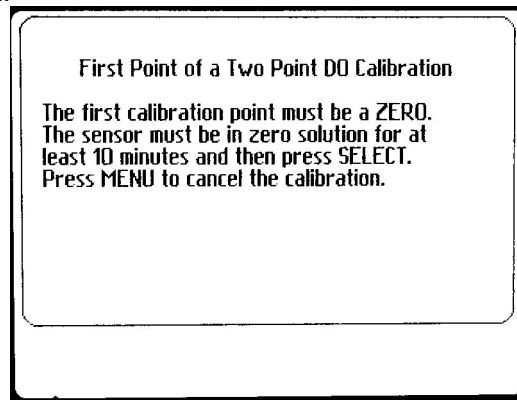

Figure 27 - First Point of a Two Point D.O. Calibration
6. The FIRST POINT OF A TWO POINT D.O. CALIBRATION screen (Figure 27) will appear. Once the sensor has been in the zero solution for at least 10 minutes, press SELECT to perform the first calibration point. The PT2 will return to the CHANNEL CAL menu screen.